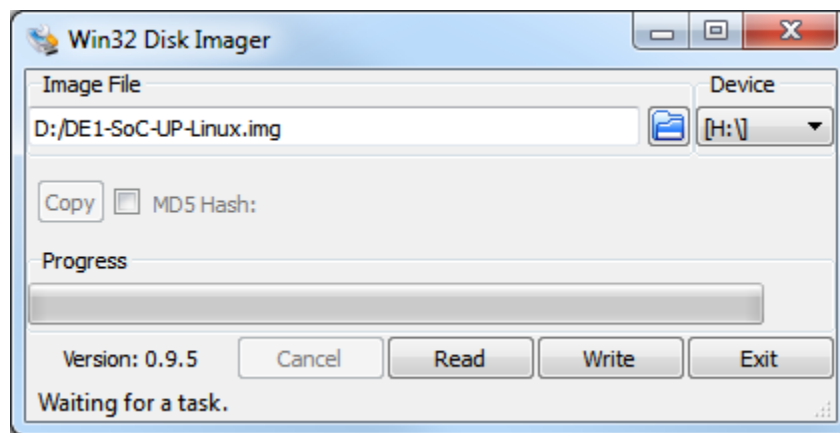

Figure 1. The Win32 Disk Imager program.
2. Select the drive letter corresponding to the microSD card under *Device*, as indicated in Figure 1.
3. Select the desired Linux image under *Image File*, as shown in Figure 1. Again, these images can be found on the University Program's website *Materials* section under the *Embedded Linux subsection*.